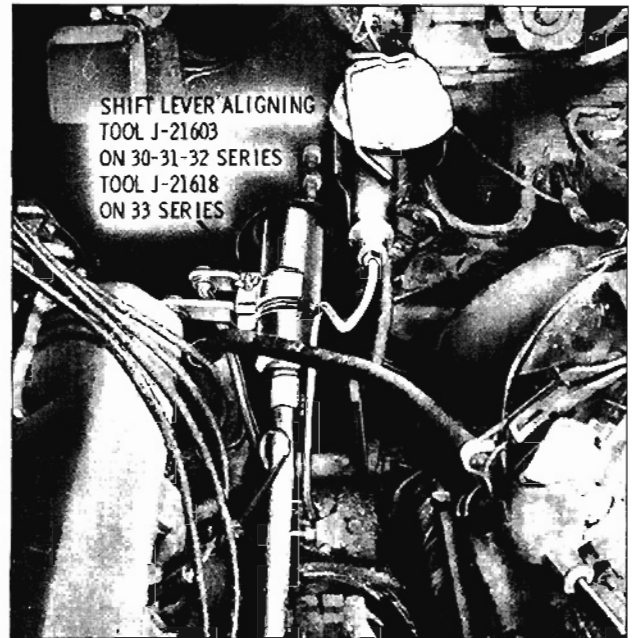

Fig. 7-106 Shift Lever Holding Tool
2. Move selector lever to neutral position. Align first and reverse shifter lever with the second and third shifter lever. (Fig. 7-106 or 7-108)